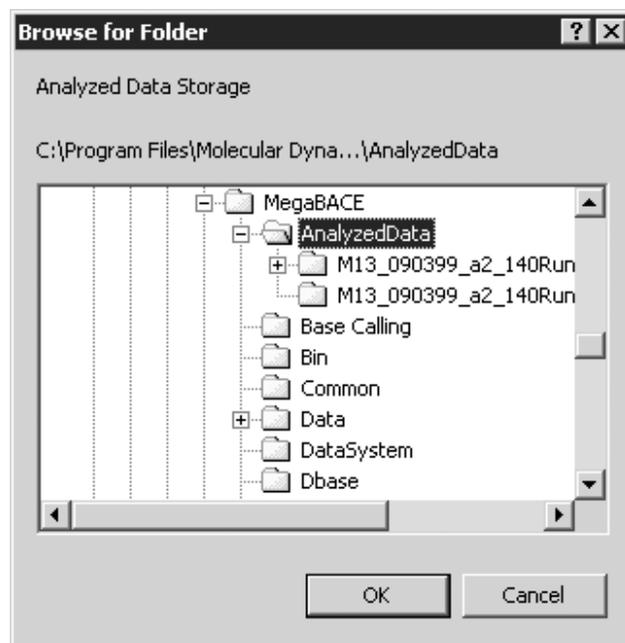

Figure 5-3. The Browse for Folder window, showing the MegaBACE AnalyzedData folder.
2. On the **Options** menu, click **Analyzed Data Storage**. The Browse for Folder window appears (figure 5-3).